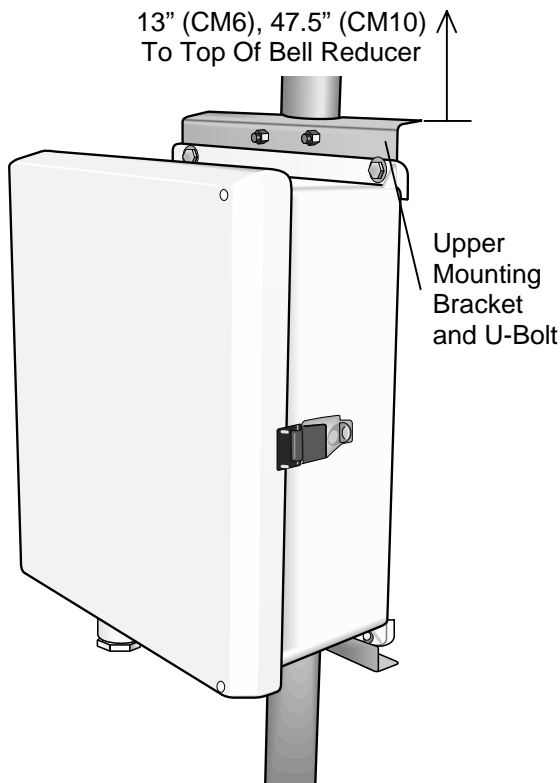

FIGURE 3.1-1. ENC 12/14 Enclosure on CM6/CM10
Mount the enclosure to the mast as shown in Figure 3.1-1.
1. Position the enclosure on the north side of the mast or tower (northern hemisphere) as shown in Figure 3.1-1, 3.1-2, or 3.1-3. Attach the enclosure with the U-bolts provided.